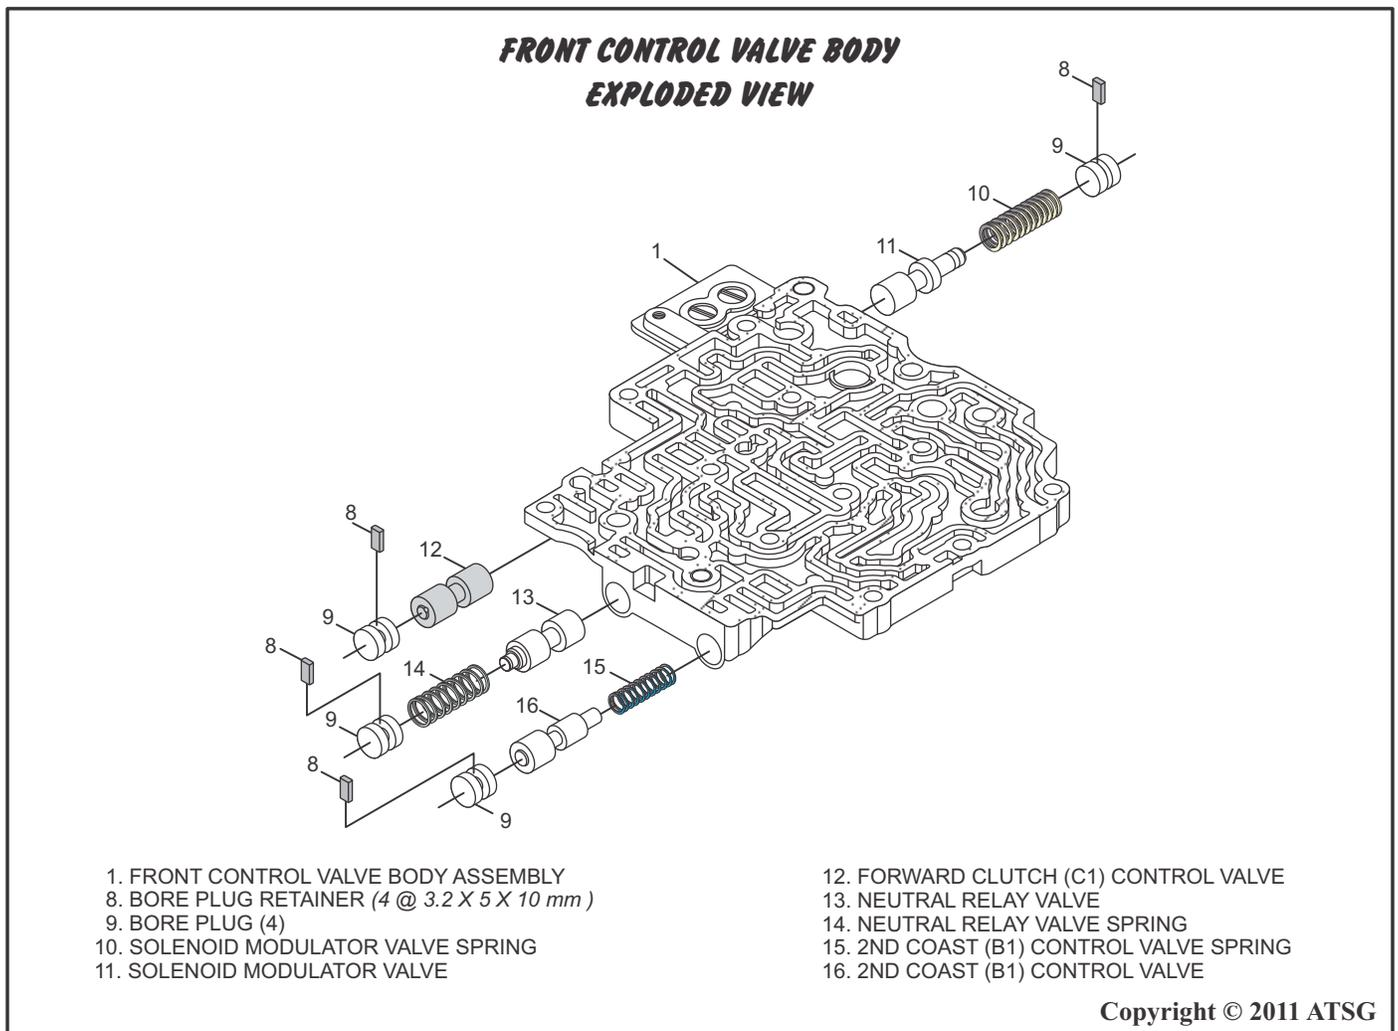

Figure 167
35. Disassemble the front control valve body using the diagram in Figure 167 as a guide. Place all valves and springs into an appropriate tray exactly as they were removed.
37. Assemble the front control valve body using the diagram in Figure 167 as a guide. Lubricate all valves with a small amount of ATF during installation.